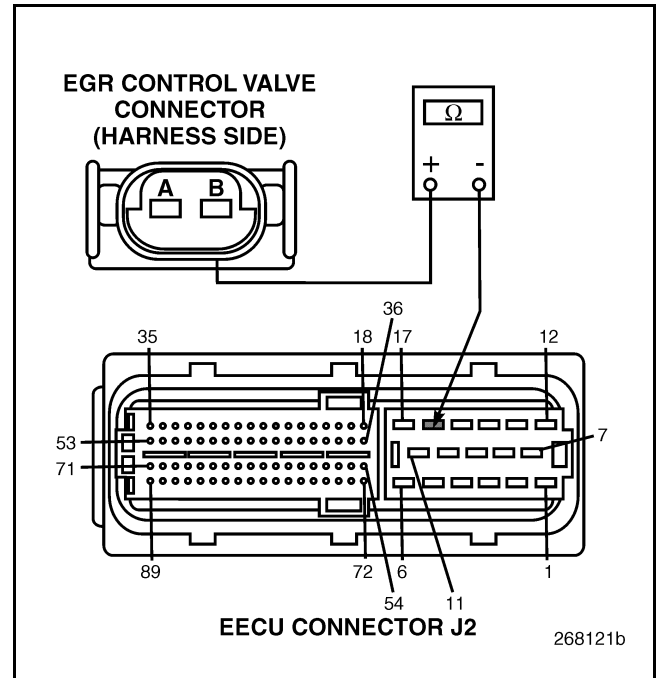

Figure 525
4. Check for continuity between EECU harness connector J2 pin 16 and pin B at the EGR Control Valve connector (see Figure 525).